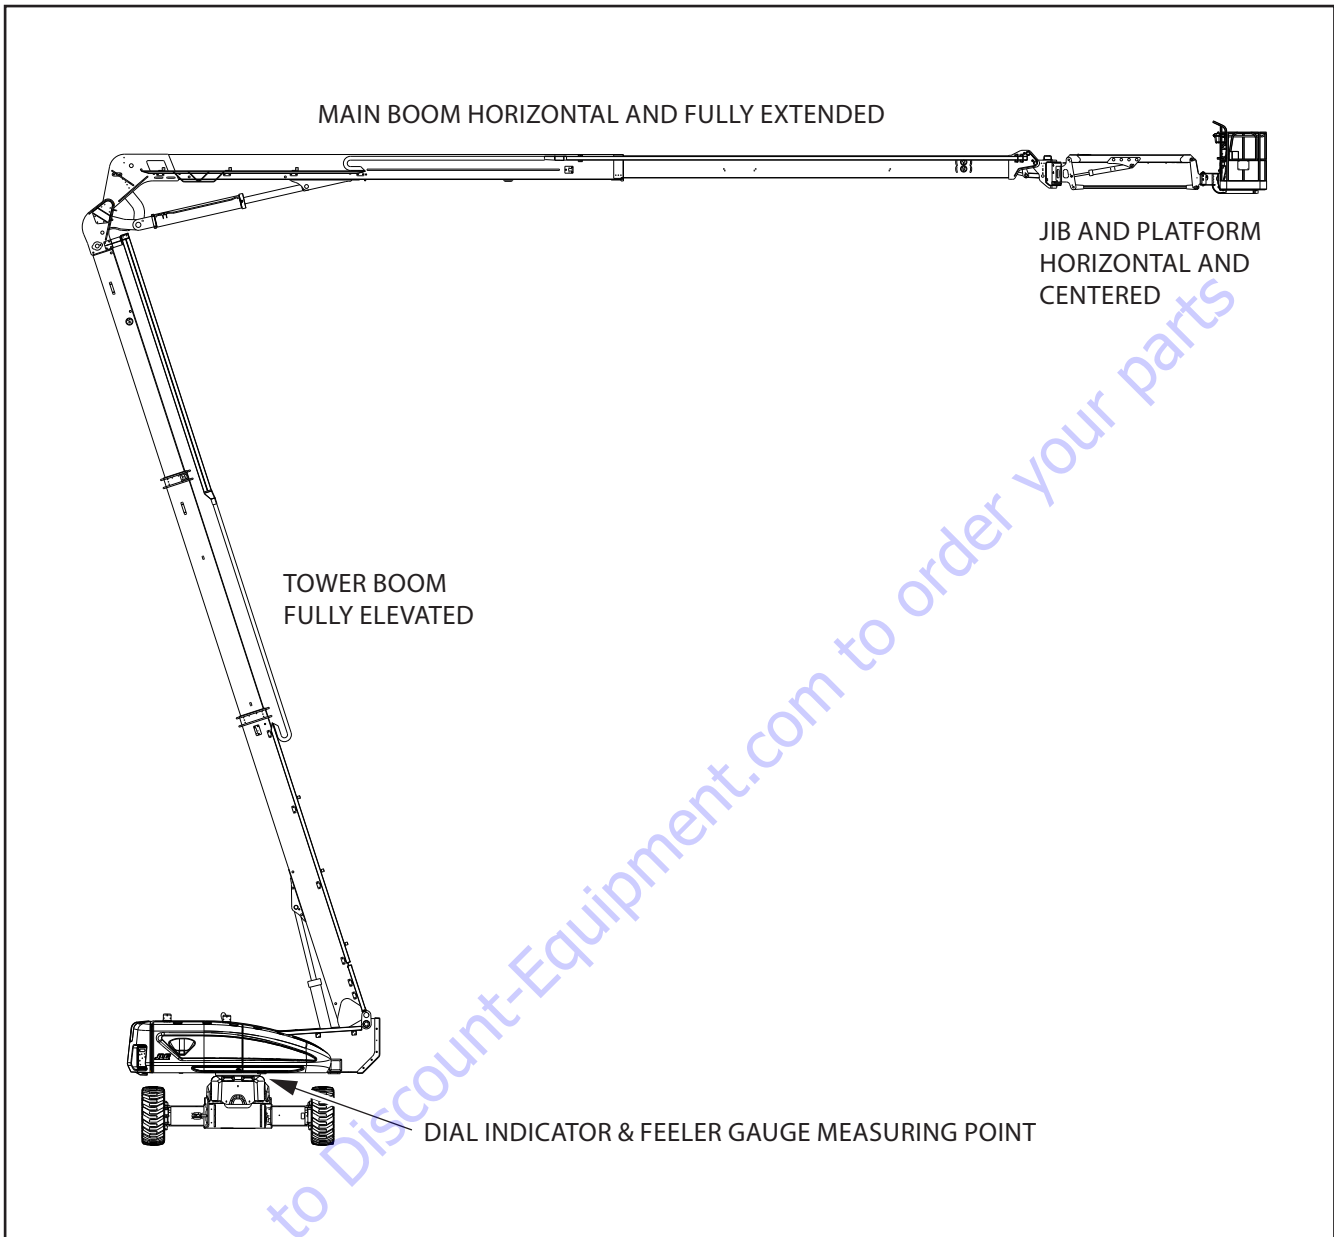

Figure 3-70. Turntable Bearing Service Boom Placement - 3
- e. Fully raise the tower boom. Lower main boom to be horizontal and fully extended. Position jib and platform to be horizontal and centered. (See Figure 3-70.)
- f. At position indicated in Figure 3-70., try and insert a 0.0015 in (0.038 mm) feeler gauge between bolt head and hardened washer.
5. Position machine as follows and as shown in Figure 3-70.